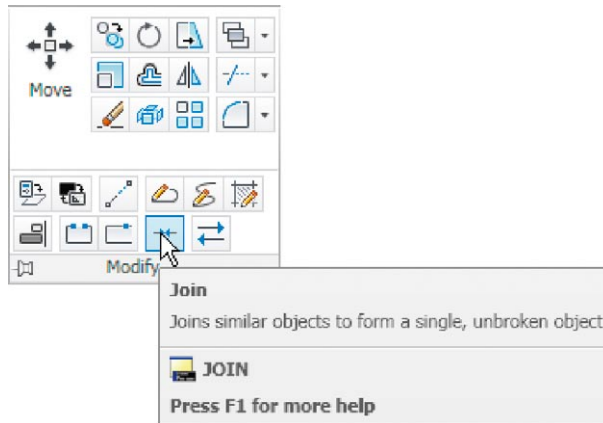

Fig. 5.37 The **Join** tool icon from the **Home/Modify** panel
2. Call the **Join** tool – either *click* the **Join** tool icon in the **Home/Modify** panel (Fig. 5.37), select **Join** from the **Modify** drop-down menu or *enter* **join** or **j** at the command line. The command line shows: